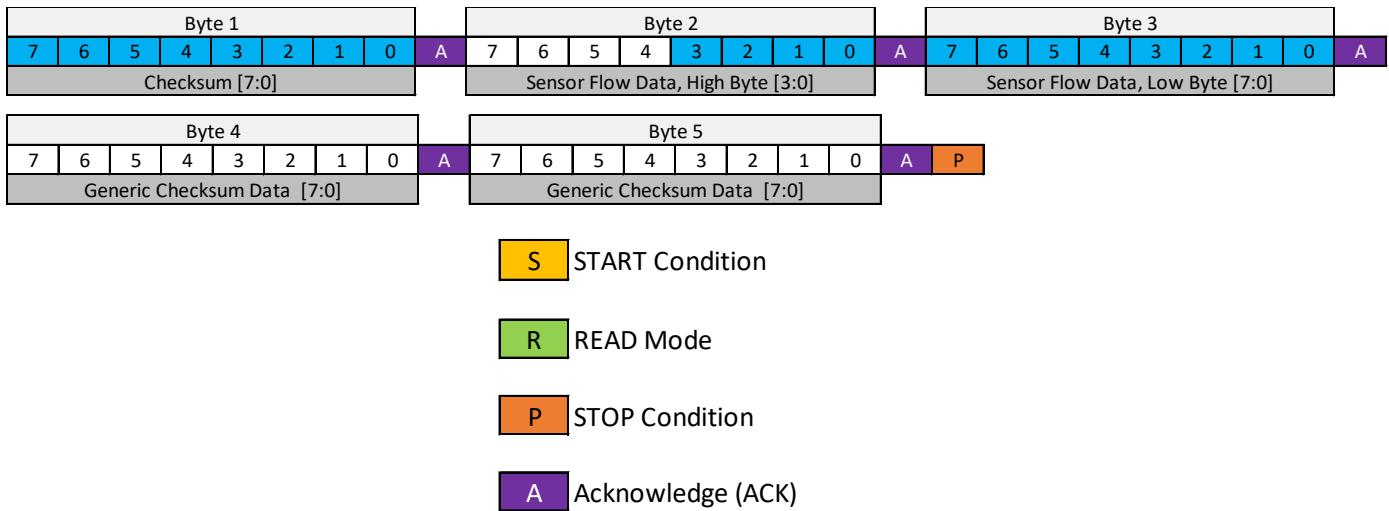

Figure 6. Flow Data from FS1027-DG
**The flow data is a 12-bit integer. Only the least significant four bits in the high byte are valid** (see Figure 6).
Figure 6 shows the 5 bytes read: